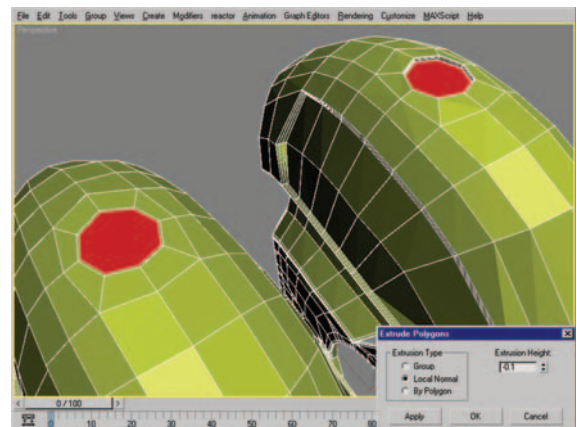

Figure 8.88 Polygon selection before and after performing Extrude ($\times 2$).
13. With the same polygon selected (Figure 8.88, left), use the Extrude settings with an Extrusion Height of -0.1 and Local Normal checked. Before clicking OK to finish the extrusion, click Apply to create a second extrusion with the same amount. Click OK to exit. You should be left with the result seen in Figure 8.88 (right).